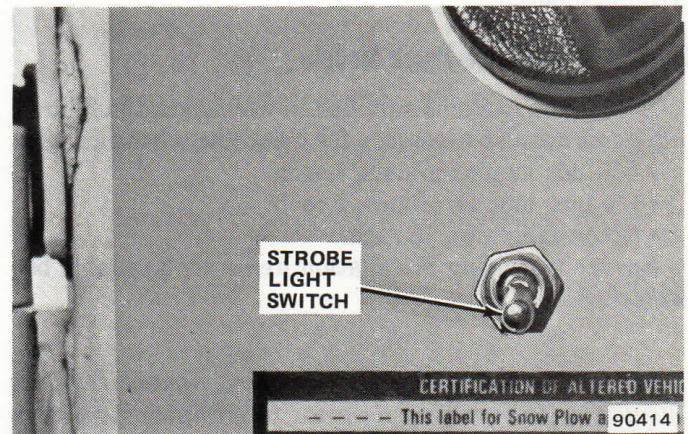

Fig. 15-1 Strobe Lamp Switch Location—CJ Models
(1) Route cable in engine compartment along with existing wiring harness to starter solenoid. Remove 4 inches of plastic sheathing and metal braid. Crimp a 1/4-inch loop terminal on black cable wire.
(2) Cut fuse wire loop and, with a crimp connector, connect red cable wire to either end of fuse holder wire. Crimp a 1/4-inch loop terminal on opposite fuse holder wire.
(3) Route opposite end of cable through grommet (speedometer cable) in dash panel into passenger compartment.
(4) Secure cable in engine compartment with nylon cable ties.
(5) Drill a 1/2-inch hole approximately 3 inches from left outer edge of instrument panel and 1 inch below windshield holddown knob for switch installation (fig. 15-1).